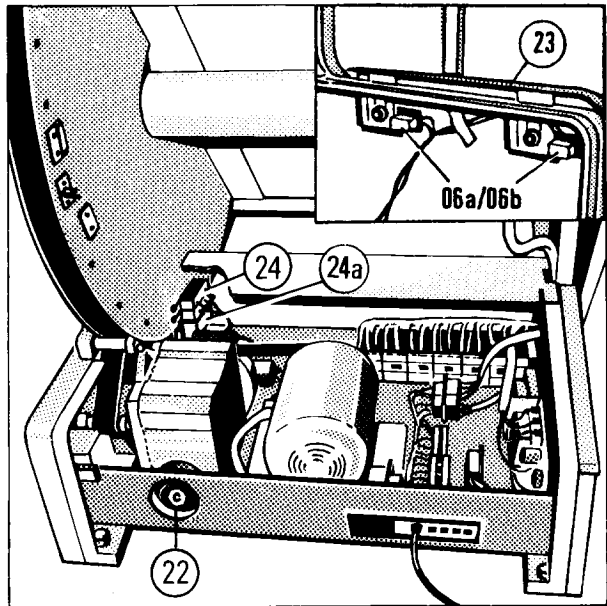

Fig. 15
- Check the brake. To do this, put a string around both belts and hook up a spring scale. Apply a force of 80 N to the belts and confirm that the pulley can not be rotated. Adjust the brake, if necessary, by turning the nut (Fig. 15/item 22) cw.
- Check condition of the switches 06a/06b and the switching rod (side view A of Fig. 15/item 23). The switches and the rod must not show any signs of wear.
- Check function of the switches (Fig. 15/item 24) and tighten mounting screws if necessary.